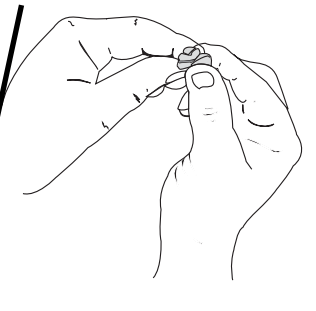

Fig. 36
5. Squeeze the filter to spread and remove excess oil (Fig. 36).